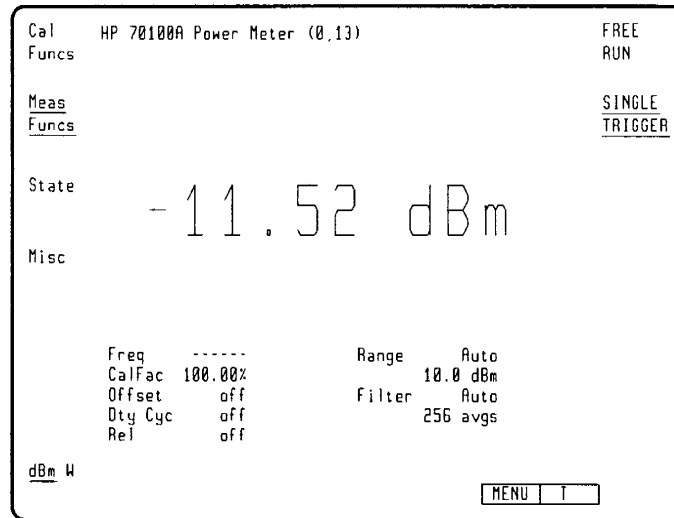

Figure 6-20. Trigger Menu
trigger accesses another menu, see Figure 6-20, that allows the user to manually set the triggering of the Power Meter. After preset, triggering is set to freerun.
1. Press **trigger**. The menu displayed will be as shown in Figure 6-20.